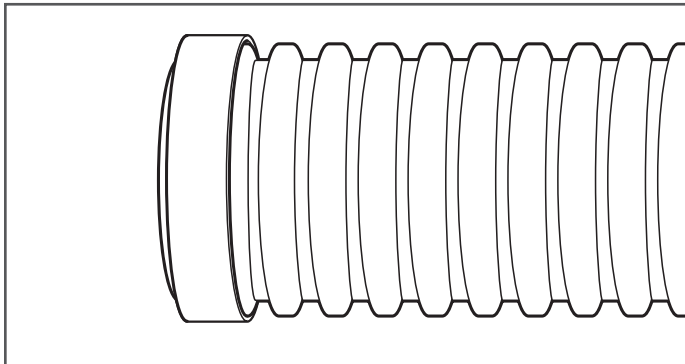

Figure 23-9
7. Trim face of chase pipe evenly in the valley of a corrugation. Install rubber clamping ring into the valley after the first corrugation. Slide chase pipe into entry fitting until the face of the rubber clamping ring is flush with the face of the chase pipe entry fitting body (Figure 23-9).